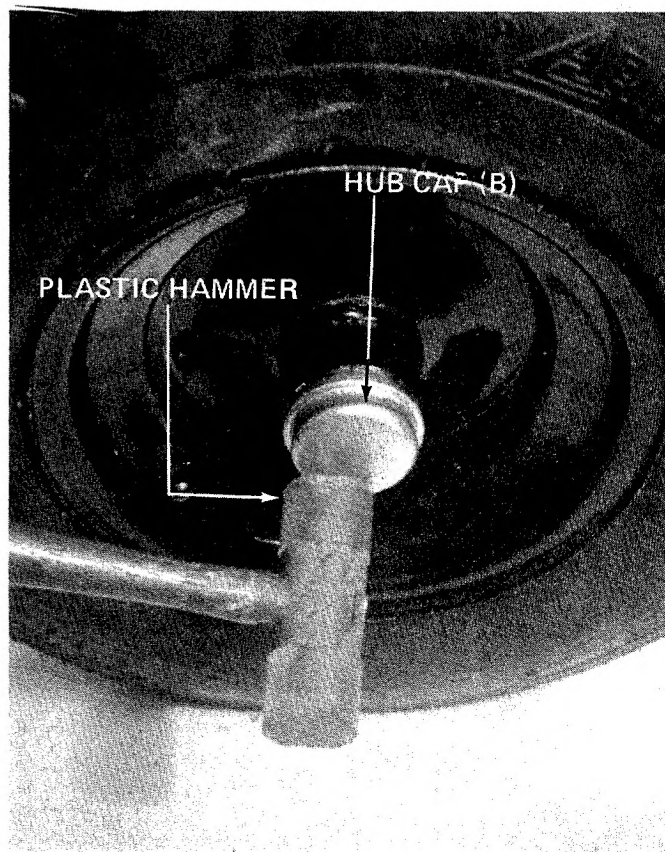

FIGURE 5
4. Place hub cap (B) in position on wheel and tap on with a plastic hammer. See figure 5.